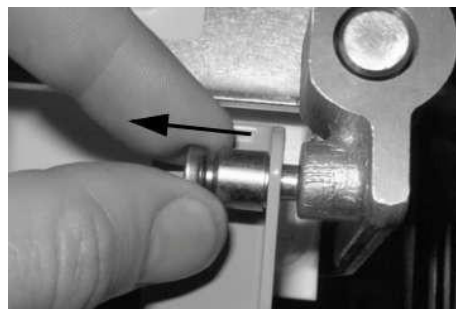

Figure 12.6 Pull the spring hinge
2. Pull the hinge buttons with spring at both ends of the cover plate and lift the cover plate from the glass plate staining device to remove the cover plate, as shown in Figure 12.6.